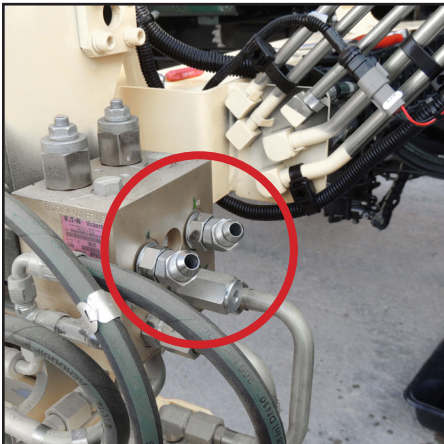

Figure 12
19. Remove the two 10-8 fittings or two 10-10 fittings on the manifold and replace with the new 10-8 fittings (P/N 1131607) or 10-10 fittings (P/N 1260506) (Figure 12). Tighten until snug.